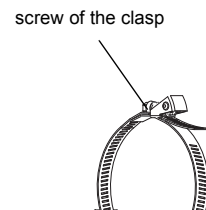

Fig. 8.13: Quick release clasp with tension strap
- Place the tension strap around the pipe and insert it into the clasp (see Fig. 8.13).